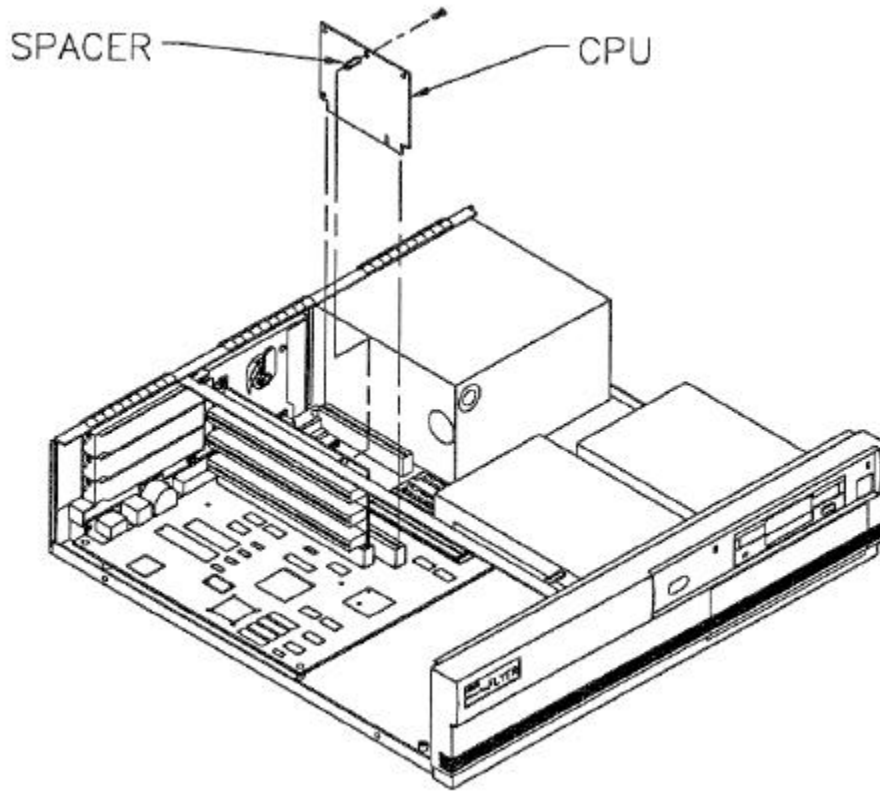

Figure 3-3: Removing the ALR CPU Module
2. Using a Phillips screwdriver, untwist the screw securing the top of the CPU card to the FLYER SD chassis. Remove the screw and spacer, being careful not to let any hardware fall on the system board. Refer to Figure 3-3 for details.
1. Insert the CPU module into the CPU slot, referring to Figure 3-3 if necessary. Apply even pressure until it is fully seated. Verify that the module is facing the correct way and is not cocked.